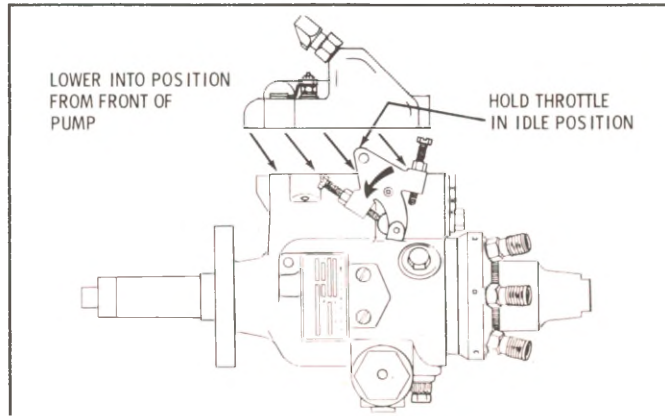

Fig. 3-22 Governor Cover Installation.
20. Install governor cover with new governor cover gasket using the action shown in Figure 3-22. Test solenoid with 12 volts, listening for audible click when energized. If no click can be heard, remove and reinstall cover and retest until click can be heard signifying proper shut off operation. Without the click the metering valve would be jammed open and if the engine were started, an instant runaway engine would result.